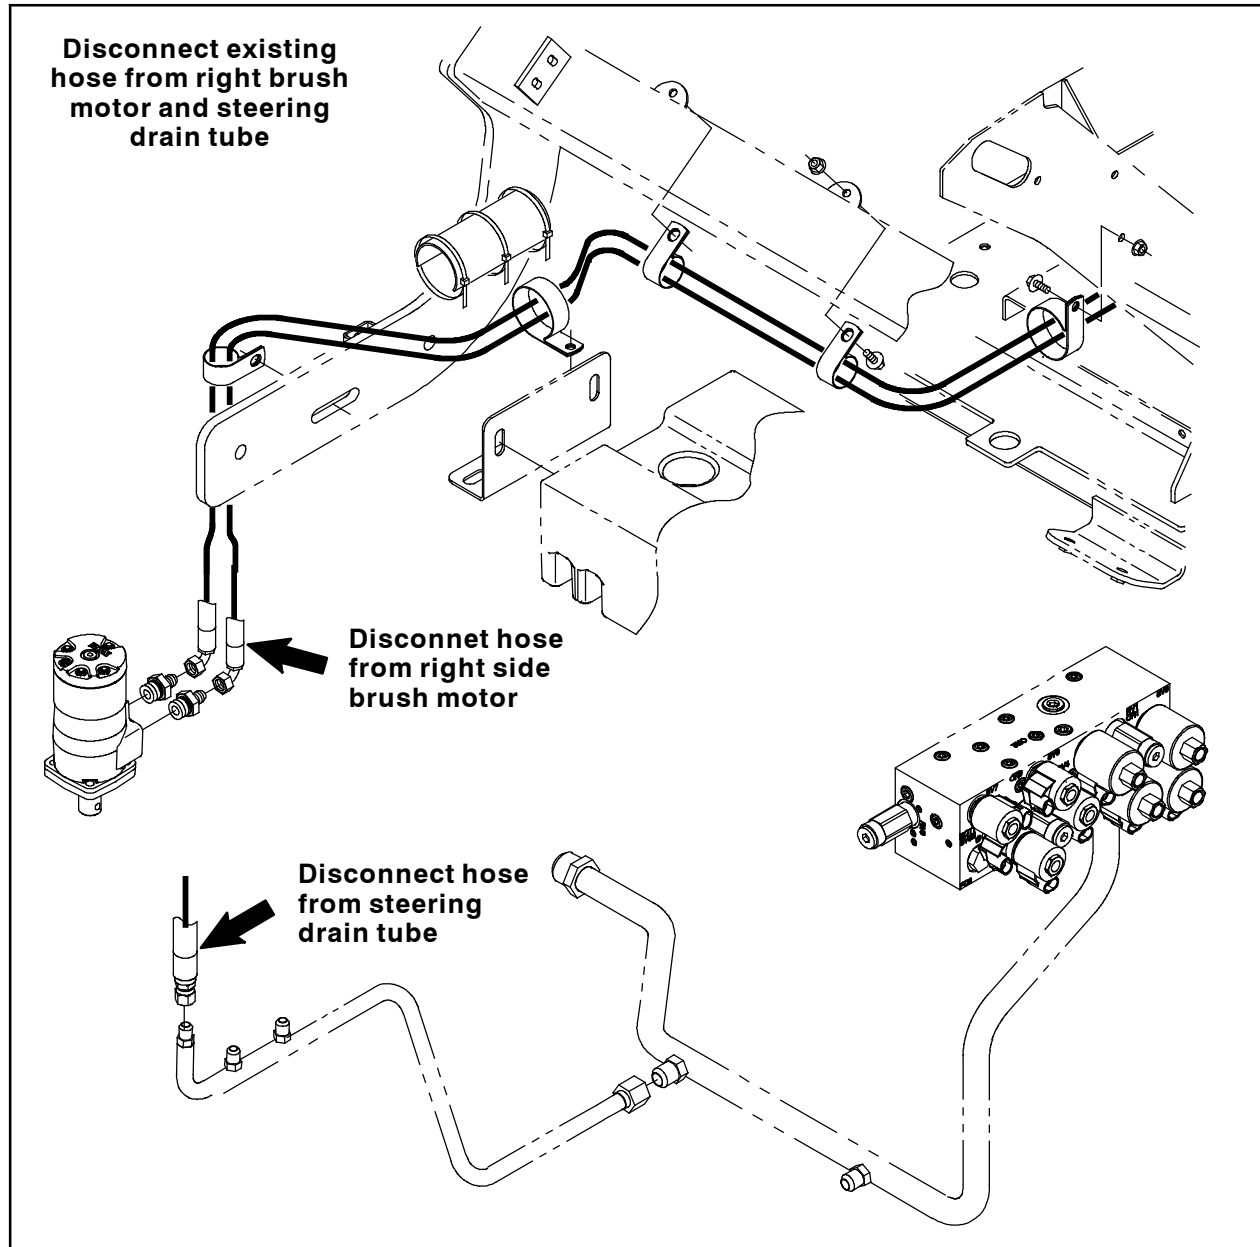

FIG. 6
16. Cut any cable ties securing the existing 134 in. (3405 mm) hose connected to the right side brush and steering drain tube to the machine. (Fig. 6)
17. Disconnect the 134 in. (3405 mm) hose from the right side brush motor and the steering drain tube. Discard the removed hose. (Fig. 6)